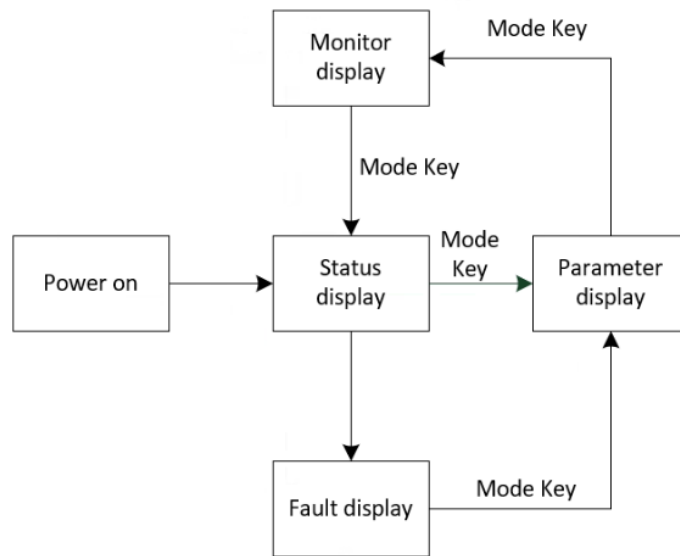

Figure 5-2 Switching schema of each display type of panel
- ① Power on, the panel display of the servo drive enters [status display mode]
- ② When an operation failure occurs, the panel immediately switches to the bit failure display mode, and all the digital tubes flash synchronously, press the "mode" key to switch to the parameter display mode.
- ③ Press the "Mode" key to switch between different display modes. The switching conditions are shown in Figure 5-2